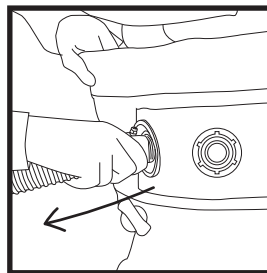

Fig. 4
7. Disconnect the pipe from the pump from the product, then turn the pump off (otherwise the air will escape from product) (Fig. 4).